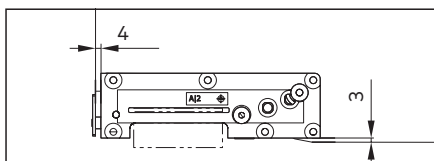

Fig. 8 Aligning the fitting
13. Align the fitting with the glass (Fig. 8).